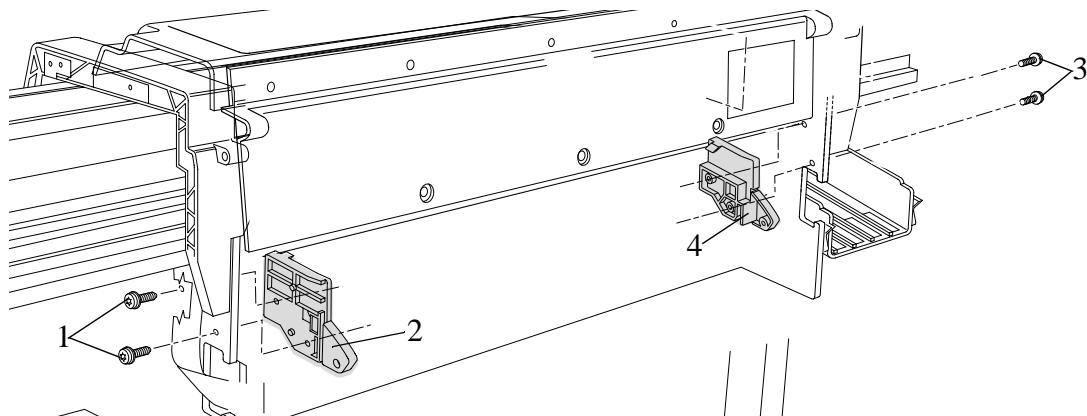
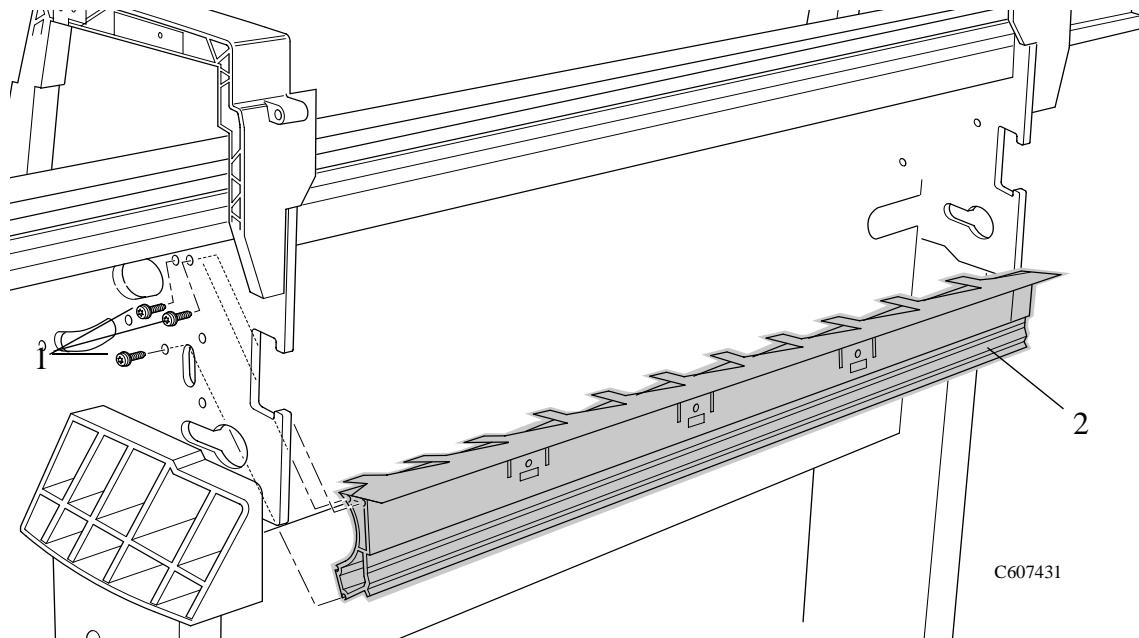

Figure 72: Platen Mounts
Figure 75: Roller Guide
Refer to Figure 72 to Figure 75.
2. Remove the two T-15 screws (item 1) securing the left hand rear platen mount (item 2) (refer to Figure 72)
3. Remove the two T-15 screws (item 3) securing the right hand rear platen mount (item 4) (refer to Figure 72).
- NOTE** **For the following steps refer to Figure 75.**
6. Remove the three T-15 screws from the right side of the roller guide assembly (item 2).
7. Remove the three T-15 screws (item 1) from the left side of the roller guide assembly and remove.